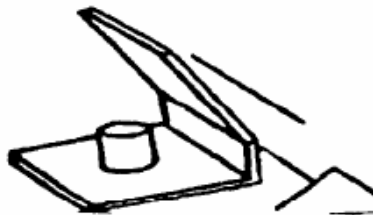

Figure 3-13
- (f) Install battery terminal lug cover (Appendix C, Item 5) on positive (+) battery terminal. (See Figure 3-13).